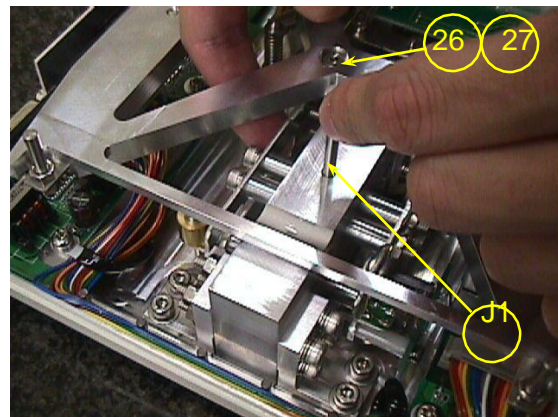

Fig.5
- Insert the Lever fixing pin (J1) into the lever fixing hole of the Unit assy (1) down to the notch in the pin (Fig.5).